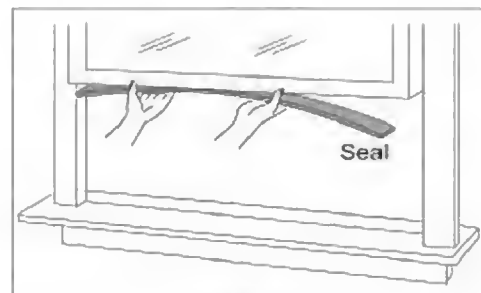

Fig. 3
3. Cut the adhesive-backed seal strip the window width. Remove the backing from the seal strip and attach the seal strip to the underside of the bottom window. See Fig. 3.